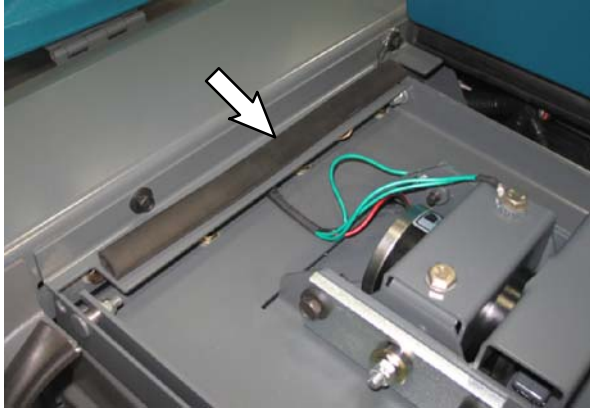

FIG. 49
64. Install a 460 mm (18 in) rubber seal (103) onto the lintel angle bracket (10). (Fig. 49)